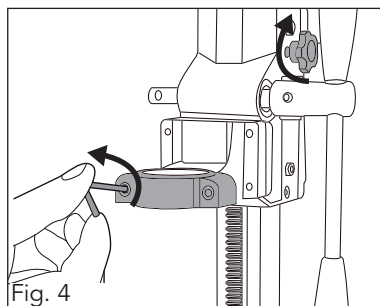

Fig. 4
2. Tighten the carriage lock (7) to prevent the carriage (1) from moving when installing the core drill (fig. 4).
3. Using a hex key (13) remove part of the collar (2) (fig. 4).